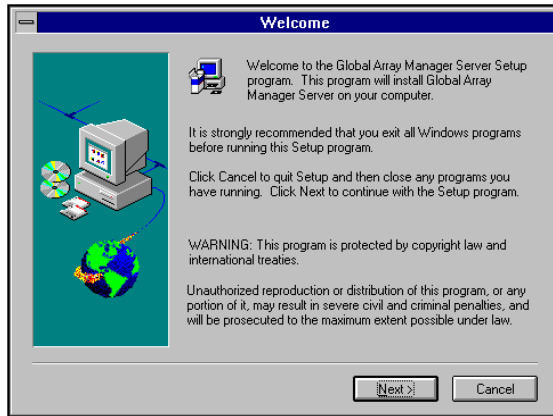

Figure 3-2. Welcome Dialog Box
5. The Welcome dialog box appears (Figure 3-2). Click Next to proceed with the installation, or click Cancel to end the installation procedure and return to Windows NT.